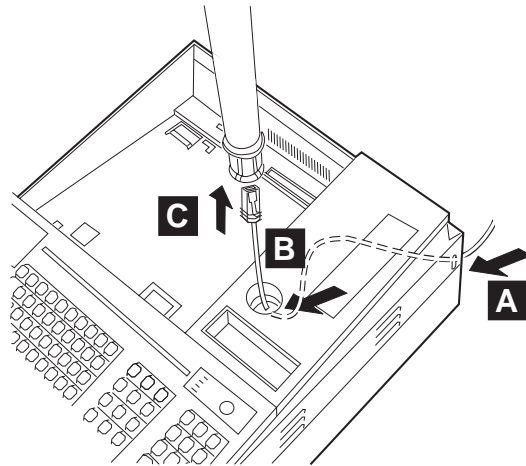

Figure 63. Routing the character/graphics display cable
3. Route the character/graphics display cable from the rear of the POS terminal ( **A** in Figure 63), through the hole on the filler ( **B** ), and through the post ( **C** ).